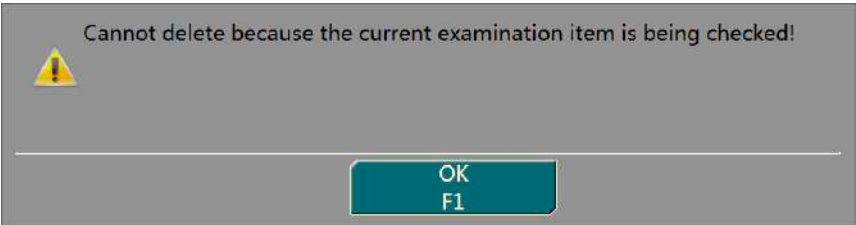

Figure 16-8 Prompt for Failure to Delete an Examination Item
Step 1 Select the examination item to delete from the examination item list on the TIP Examination Items Management interface and click “Delete”. If the examination item is being executed, a dialog box is displayed, as shown in Figure 16-8.